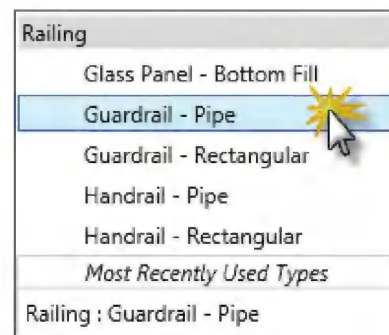

FIGURE 11-4.3 Options for selected railing
10. With the railing selected, select the various railing types available in the *Type Selector* on the *Ribbon*. When finished make sure **Railing: Guardrail – Pipe** is selected (Figure 11-4.3).